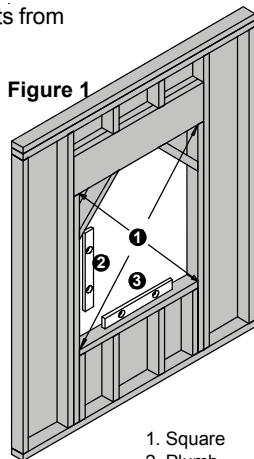

Figure 1
**Structural Support & Bracing:** Additional structural support for specialty shape windows will need to be added to the rectangular opening in the form of bracing and shimming, to prevent any vertical load from being transferred to the window. Additional support also provides more anchor points for fasteners to securely hold the window square, plumb and level (fig.1).
**Measuring for square:** Take measurements from bottom left corner to top right corner and bottom right corner to top left corner and compare. If measurements are equal the R.O. is square. If measurements are not equal, R.O. is out of square and it is then the responsibility of the installer to remedy this problem (fig.1).
**Checking for Plumb:** Place a level on both sides of the R.O. making sure the vertical measurement of each side is true. If R.O. is not plumb, it is then the responsibility of the installer to remedy this problem (fig.1).
**Checking Level:** Place a level on the sill of the R.O. making sure the horizontal measurement on the sill is level. If opening is not level, the use of shims may be used to level the sill (fig.1).